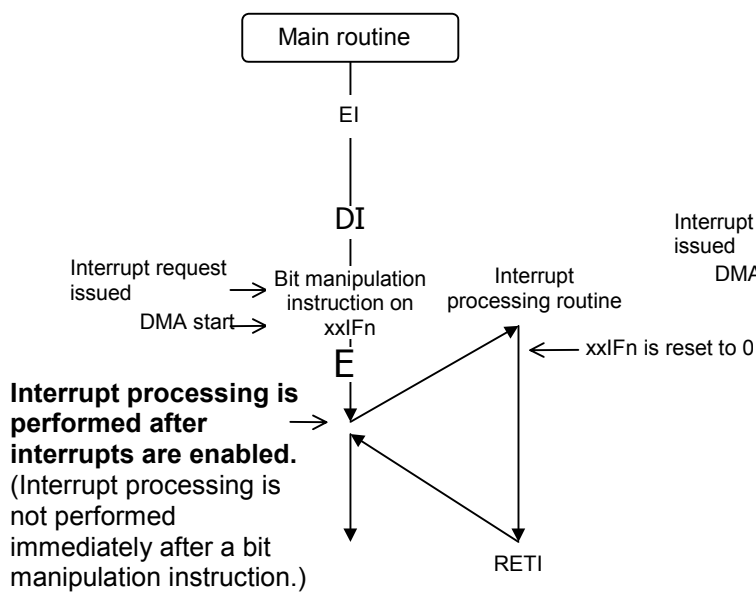

Figure 3. Workaround (1)
- (1) Issue the DI instruction before executing a bit operation instruction on the interrupt request flags (xxIFn) of an interrupt control register (xxICn) by software. Then issue an EI instruction afterwards, and do not execute interrupt processing immediately after the bit operation instruction. (See figure 3.)